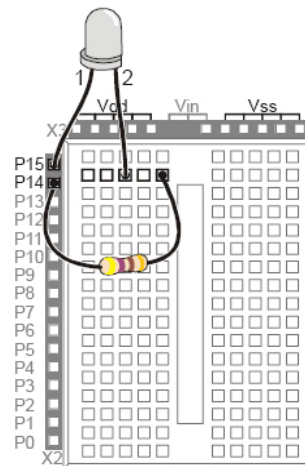

Fig 2.38: Bi-Color connection to Basic Stamp circuit
- Build the circuit shown in figure 2.38